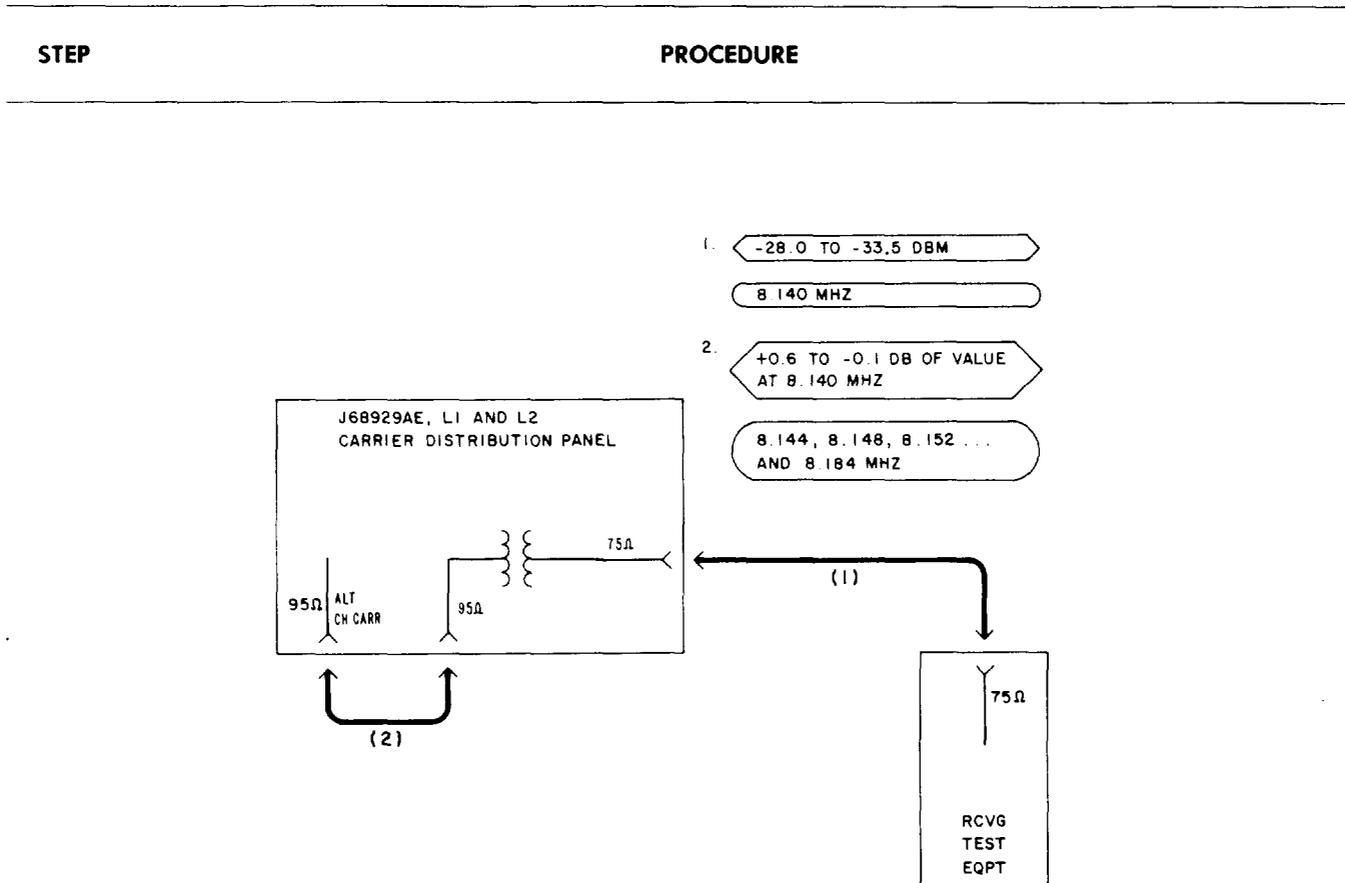

Fig. 6—Patching Diagram—Alternate (or Auxiliary) Channel-Carrier Test—At Regular Carrier Supply
24	Connect the 95Ω jack to the ALT CH CARR jack [patch (2), Fig. 6].
28 Remove patch (2), Fig. 6.